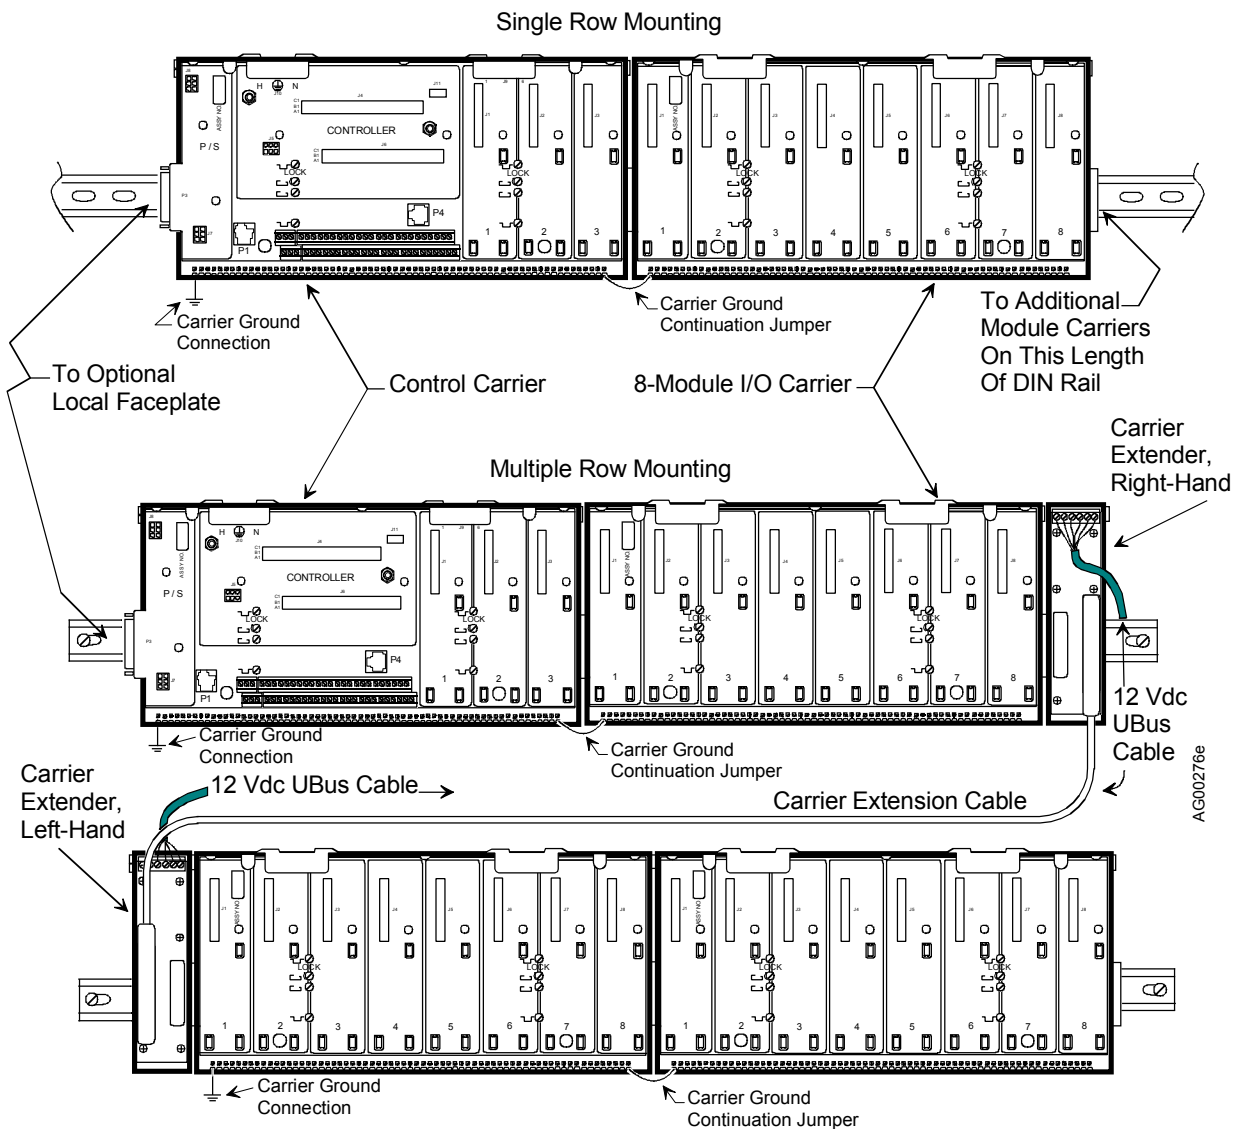
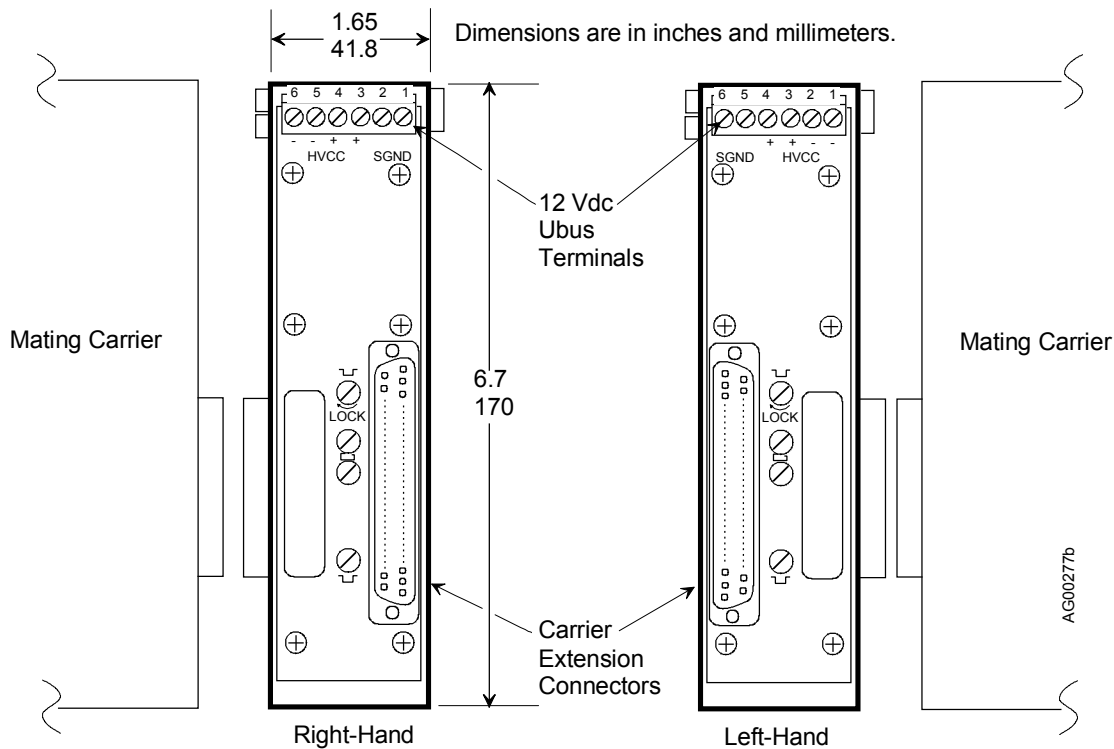

FIGURE 1 Carrier Extender Mounting and Cabling
FIGURE 2 Carrier Extender Dimensions
This chapter describes the installation of right-hand and left-hand carrier extenders, the 12V Ubus cable, and the carrier extension cable. Figure 1 shows the use of these items in a multiple row configuration. They serve to interconnect adjacent rows by plugging into the carrier (control or module) at the end of one row and into the carrier at the start of the next row. Typically, extenders are not used in single row mounting installations.
A carrier extender plugs directly into a control or module carrier. It is mounted in a similar manner as the carrier into which it is plugged (i.e. DIN rail or flat panel). Carrier extender physical dimensions are shown in Figure 2. The carrier extension cable is connected between a right-hand extender and a left-hand extender, as shown in Figure 1.
1. Plug the carrier extender into the carrier. Refer to Figure 1. The connector seating force and the keys at the ends of the carrier and extender are sufficient to ensure a secure physical and electrical connection. A carrier extender does not fasten to the flat panel.
Figure 2 shows the location of the mounting screws with $\frac{1}{4}$ turn nuts that secure the carrier extender to the DIN rail. As shown by the symbols on the carrier extender, there are two pairs of mounting hardware for each DIN rail type. One pair is for G-type DIN rail and one for T-type.
1. Ensure that the $\frac{1}{4}$ -turn nuts are retracted by rotating the screws shown in Figure 2 counterclockwise.
This cable carries the Ubus 12 Vdc from the right-hand carrier extender to the left-hand extender as shown in Figure 1. Figure 2 shows the 6-pin connector on each carrier extender. Cable connections are shown in the wiring diagram below. The Ubus cable is not installed when an accessory (external) 12 Vdc power supply is used to power the modules connected to the left-hand carrier extender, as shown in Appendix C.